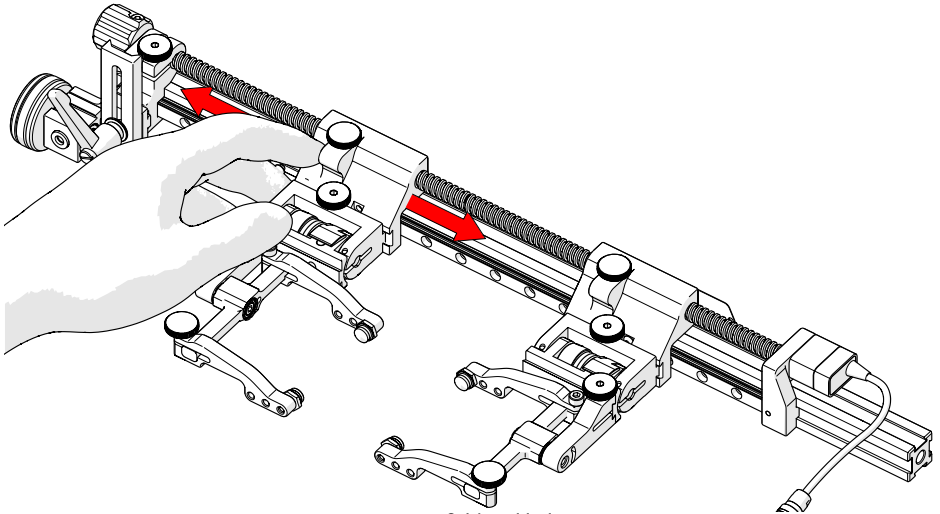

Fig. 155 - Quick positioning
3. When the knobs are loose, it is possible to just push the carriages in place for quick adjustment (*Fig. 155*). Tighten both knobs to lock the carriages in position.